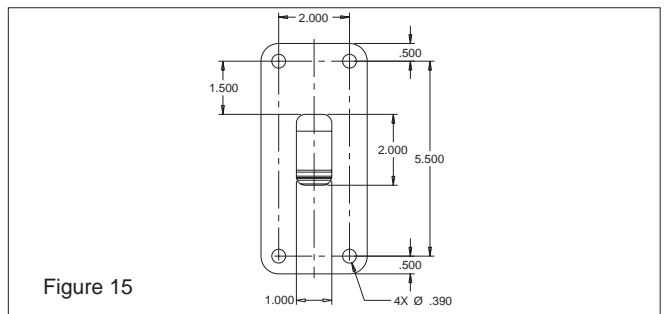

Figure 15
2. Mount the wall bracket to the wall with appropriate hardware. Refer to Figure 15 for the mounting pattern.